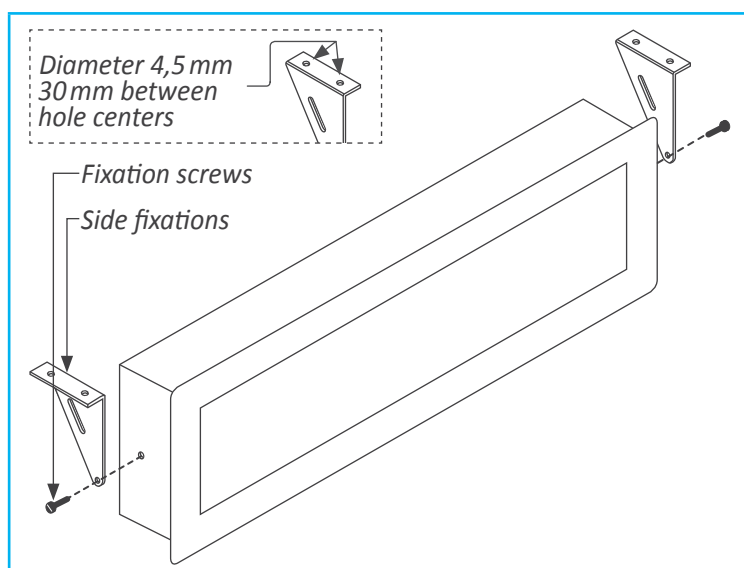

Figure 10 - Hanging mount
- Hanging mount. Mount the side fixations as shown (see Figure 10). Each fixation has 2 holes with 4,5 mm diameter and a separation between hole centers of 30 mm. Instrument can be hanged using cable, threaded rod,